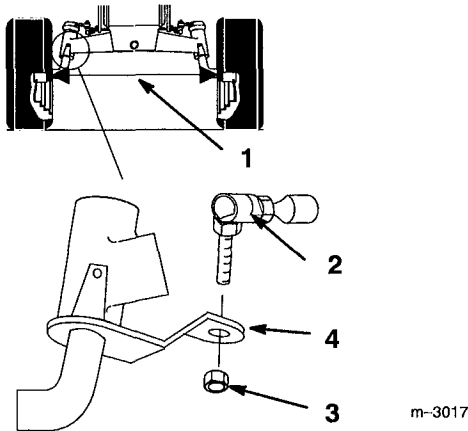

Figure 26
Maintain toe-in of the front wheels as specified. If uneven tire wear, lawn scuffing or hard steering develop adjustment may be required. Check the toe-in after every 100 operating hours or yearly, whichever occurs first (Fig. 26).
3. Measure, between the rims, at spindle level, in the front and rear of the wheels (Fig. 26).
2. Remove ball joint from one steering lever (Fig. 26).